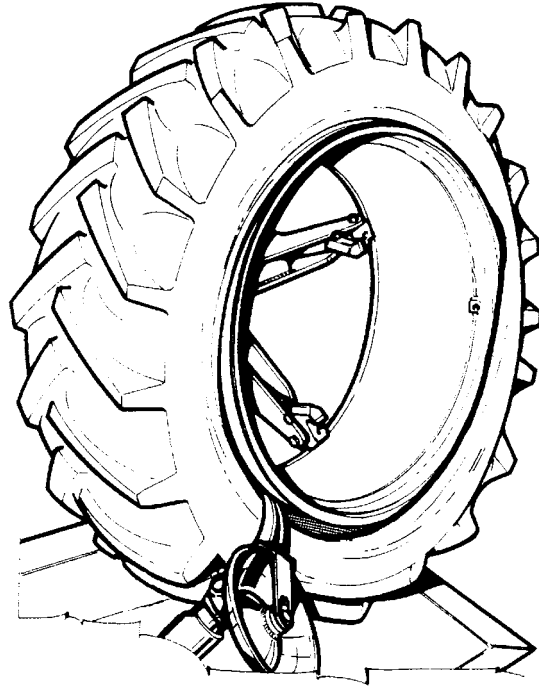

Fig.47
7. Turn the chuck counterclockwise until the outer bead is completely demounted (fig.47).